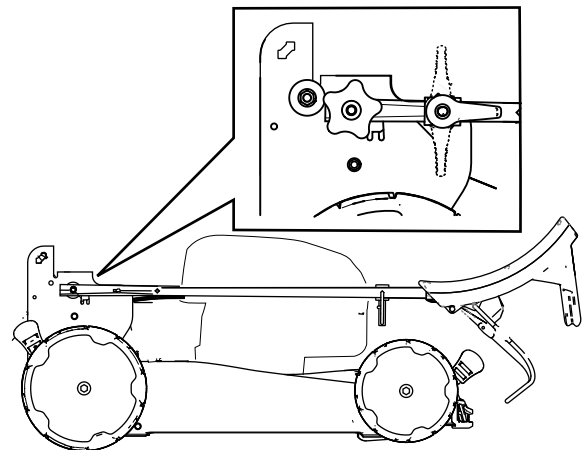

Figure 24
4. Fold the handle forward either to the fully forward position as shown in Figure 24.